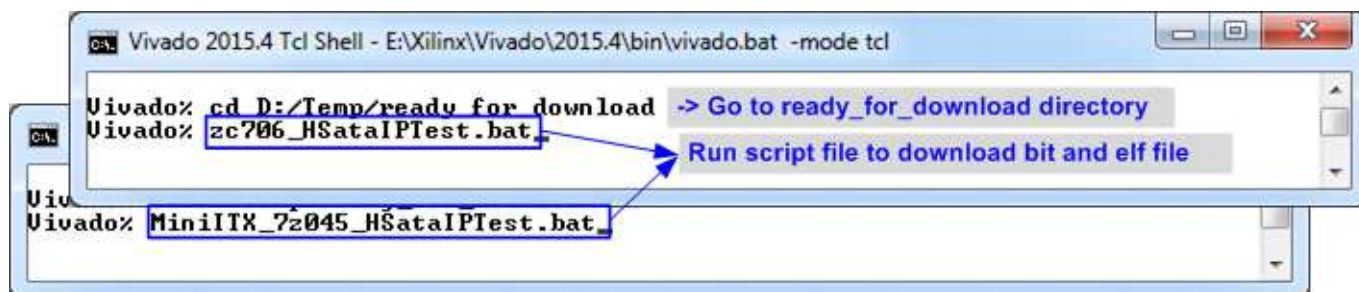

Figure 2-10 Command script for download demo file on Mini ITX/ZC706
- 8) a) For Zynq Mini ITX/ZC706 board, open Vivado TCL shell, change current directory to ready_for_download. Next, run XXX_HSataIPTest.bat as shown in Figure 2-10. For example, type zc706_HSataIPTest.bat, zcu102_HSataIPTest.bat, MiniITX_7z045(or 7z100)_HSataIPTest.bat.